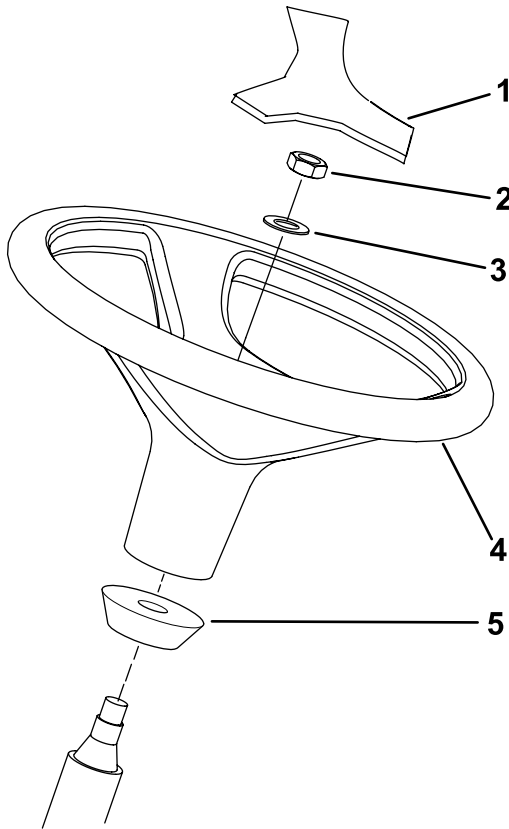

Figure 14
1. Remove the steering wheel from the shipping skid (Figure 14).
Note: Ensure that the foam collar remains on the steering shaft (Figure 14).
3. Slide the steering wheel and washer onto the steering shaft (Figure 14).
5. Mount the cover to the steering wheel (Figure 14).